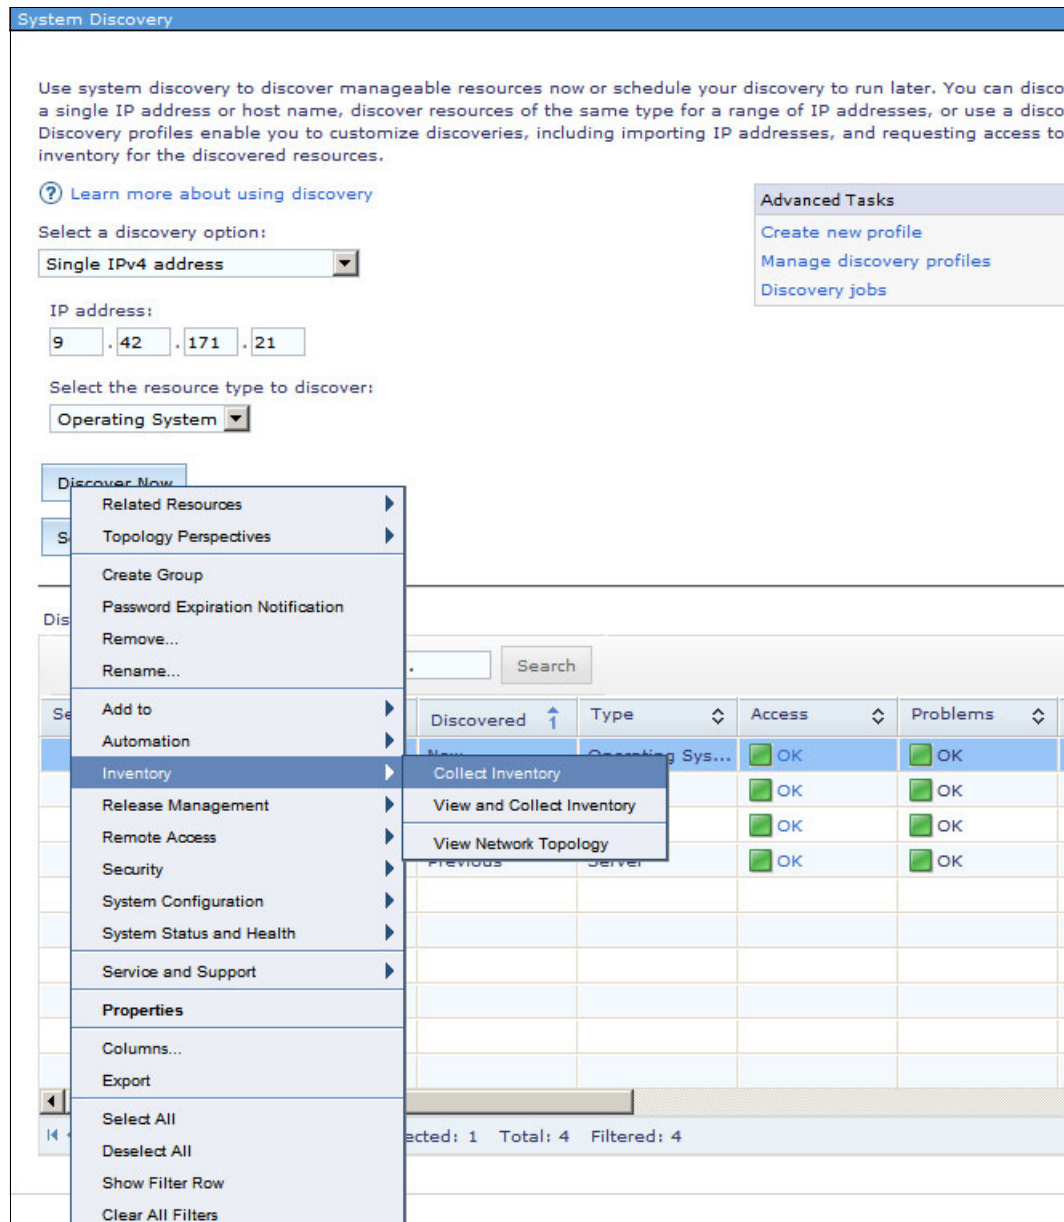

Figure 6-73 Inventory collection
1. In the System Discovery window, select the discovered objects and click **Actions** → **Inventory** → **Collect Inventory**, as shown in Figure 6-73.